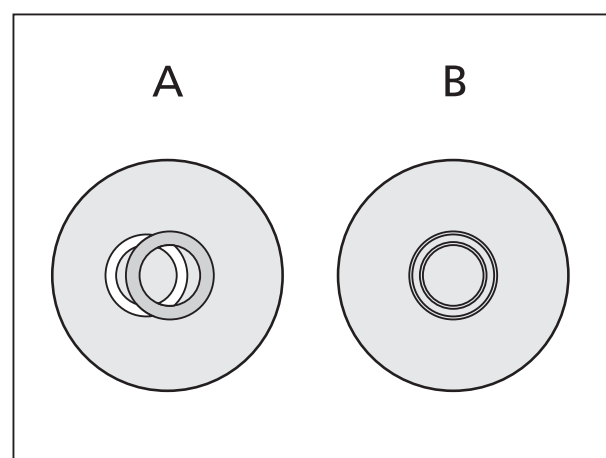

Fig. 3-21 Centering phase stop (light, in the condenser) to the phase ring (dark, in the objective)
(3) Setting transmitted-light VAREL contrast on the Axioskop 40 and Axioskop 40 FL
- Where necessary, center the VAREL segment stops by adjusting the knurled screws (3-22/1) in the same manner as for the phase stops (cf. fig. 3-21).